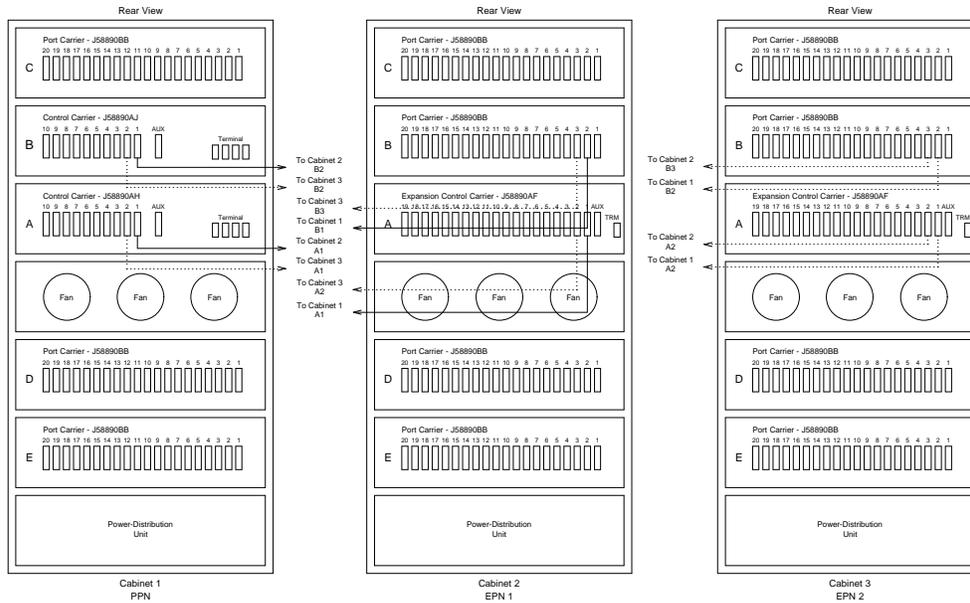
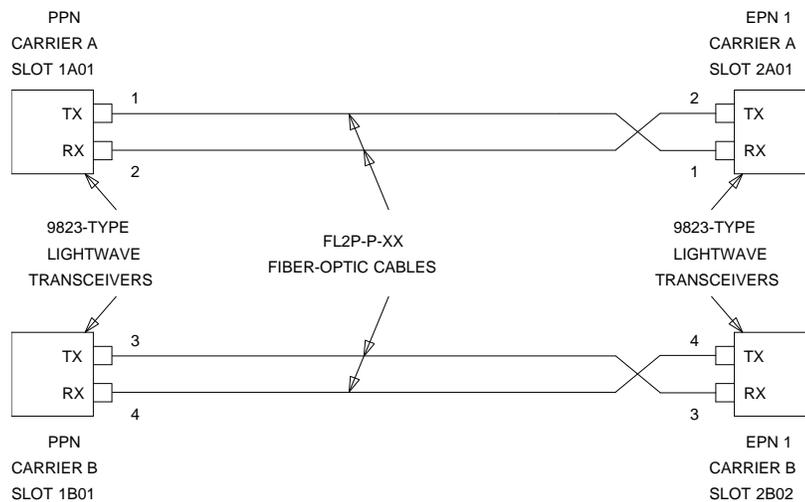
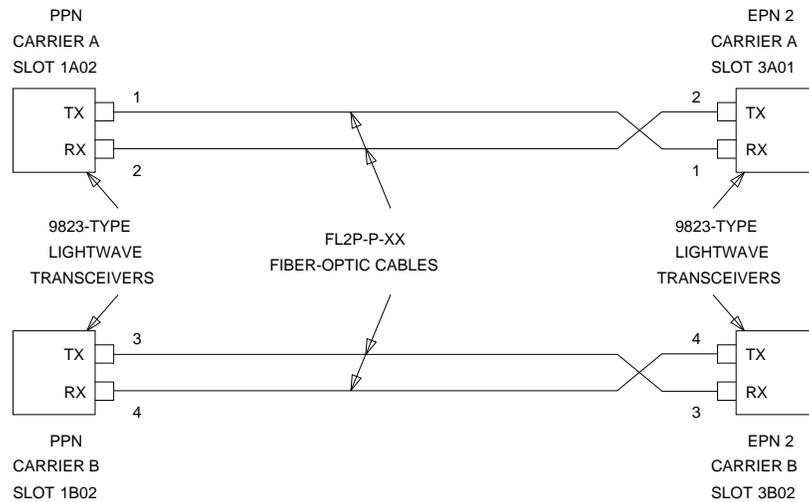
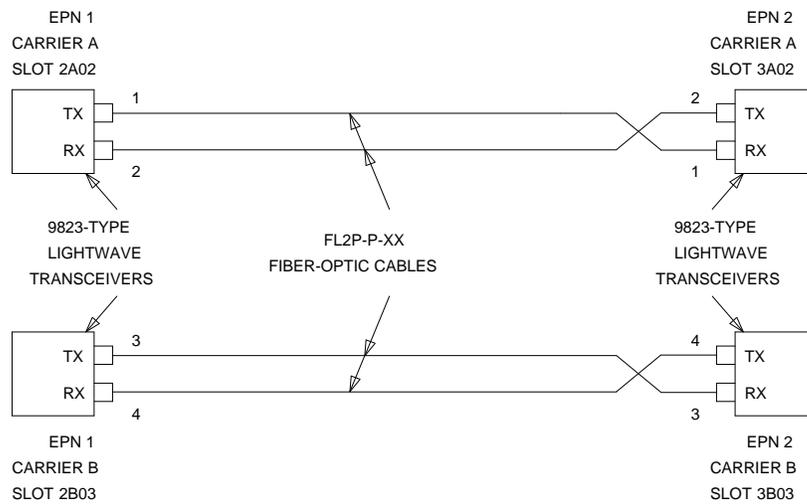

Figure 7-42. Critical-Reliability G3i V4 with Two or Three Port Networks
Figure 7-43. Fiber-Optic Connections PPN to EPN1
Figure 7-44. Fiber-Optic Connections PPN to EPN2
Figure 7-45. Fiber-Optic Connections EPN1 to EPN2
The connectors on the lightwave transceivers are labeled either “TX” (transmit) or “RX” (receive), while the fibers attached to each connector are numbered either “1” or “2.” A viable fiber connection is only made when both fibers in each cable (“1” and “2”) route from the “TX” connector of a port network to the “RX” connector of its adjacent port network. For an example, refer to Figure 7-43 on page 7-98.
1. Behind control carrier A of PPN cabinet 1 (see Figure 7-42 on page 7-98, Figure 7-43, Figure 7-44, and Figure 7-45):